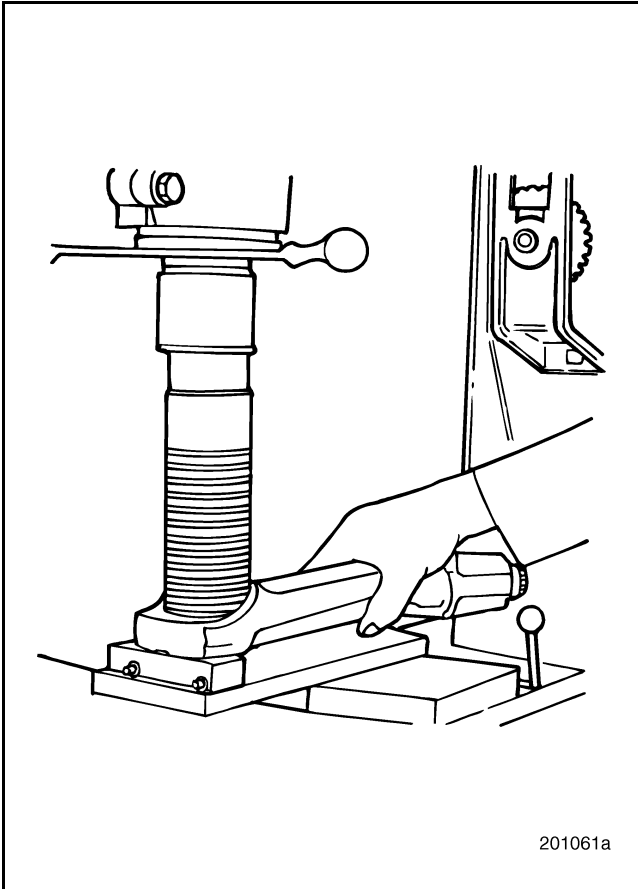

Figure 167 — Burnishing Wrist Pin Bushing
2. Align the hole in the bushing with the rifle-drilled hole in the rod. Refer to Figure 167.